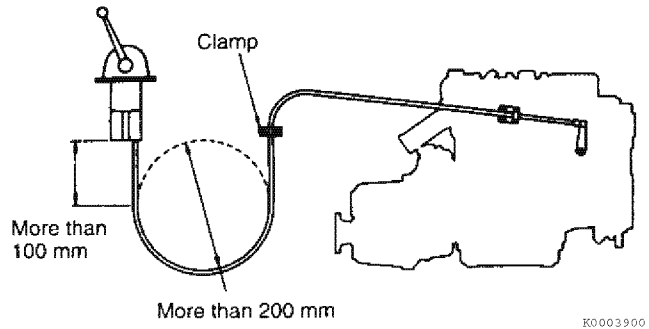

Figure 7-97
2. The outer cable should be bent, if required, at a point more than 100 mm (3.94 in.) from the outer cable clamp in order to protect the clamp from strain (**Figure 7-97**).